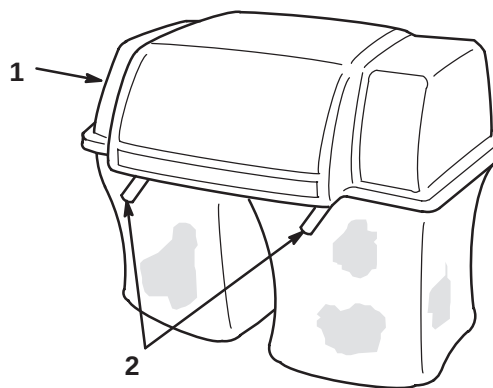

Figure 32
2. Pull up on both bag retainer handles until they unlock from the bag frame (Fig. 32). Open (raise) the bagger top.
5. Lower the bagger top onto the bags. Then push down on both bag retainer handles until they lock on the bag frame (Fig. 32).